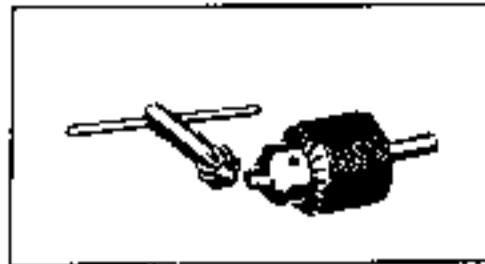

Fig. 36. Drill Chuck for Internal Grinding Attachment
THE INTERNAL GRINDING ATTACHMENT, while primarily for grinding holes, either straight or taper, can be used for external grinding, sharpening cutters, reamers, end mills, counterbores, etc., lapping and drilling at high speed with small drills held in drill chuck, see Fig. 36.
**DRILL CHUCKS** are offered in three sizes, 0 to  $\frac{1}{16}$ ", 0 to  $\frac{5}{16}$ ", and 0 to  $\frac{1}{2}$ ". Drill chucks for use in turret attachment, or in collet held in headstock, are mounted on straight shanks  $\frac{3}{4}$ " diameter by  $1\frac{1}{8}$ " long. Drill chucks for use in tailstock of lathe, or in headstock center chuck, are mounted on taper shanks. These drill chucks are of standard make, of improved type, with hardened jaws. They are strong and accurate and are similar to Fig. 36.